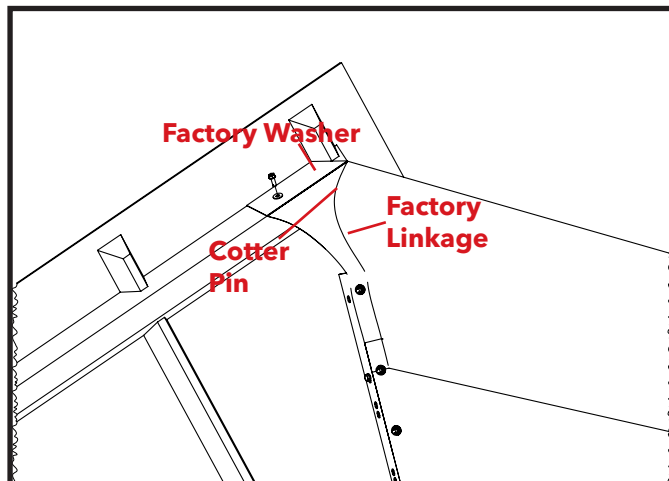

Figure 8
Attach the factory linkage to the Front Panel Assembly (3) using the washer and cotter pin from Step 1. See Figure 8.